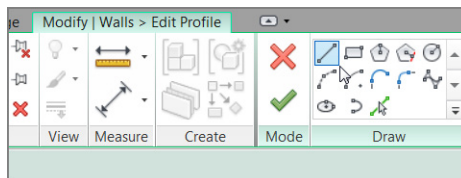

FIGURE 3.43: Adding additional lines to alter the wall's profile
4. On the Draw panel of the Modify | Walls > Edit Profile tab, select the Line button, as shown in Figure 3.43.